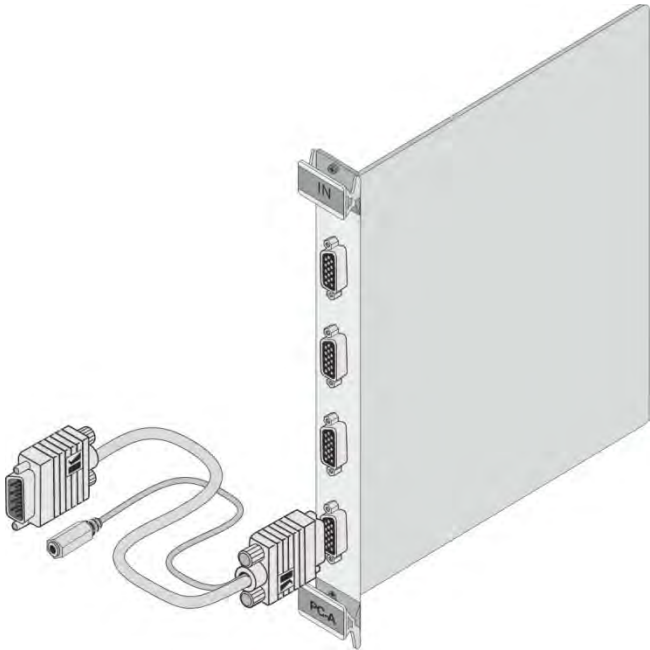

Figure 15: Accessing Audio over VGA
-  Audio output is accessed by connecting the four supplied Kramer **C-GF/GMAF-30** cables to each VGA port as illustrated in Figure 15.